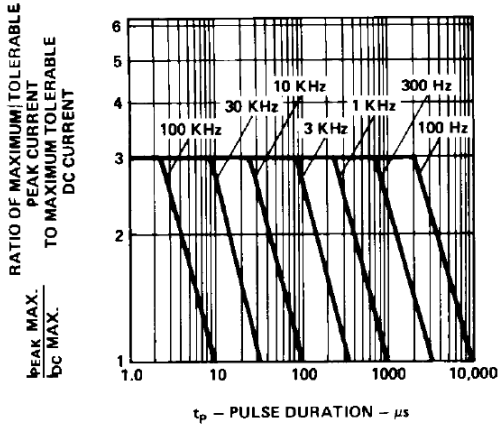

Figure 10. Maximum tolerable peak current vs. pulse duration. (I_{DC} MAX as per MAX ratings).
- See Figure 10 (High Efficiency Red), 15 (Yellow), or 20 (Green) to establish pulsed operating conditions.